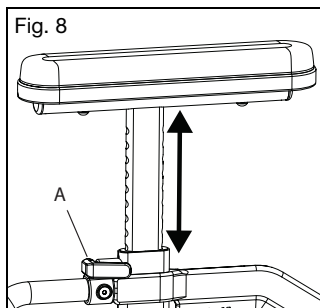

Fig. 8
- Pull the height adjustment lever (Fig. 8:A) and slide the upper T-Arm assembly to the desired height.
- Close the height adjustment lever (Fig. 8:A) to secure.